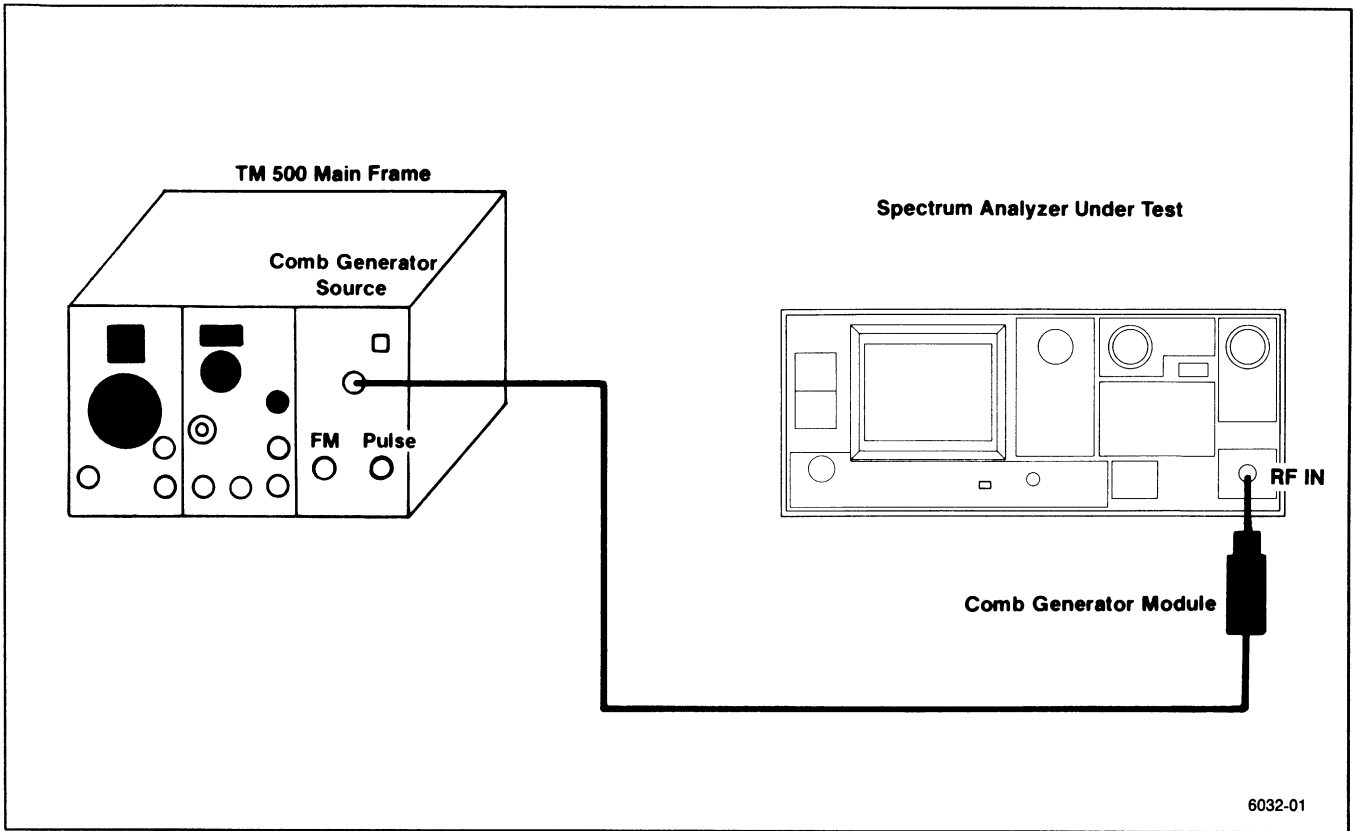

Figure 4-5. Test equipment setup for checking center frequency accuracy.
- (1) Use a Frequency Counter and a Prescaler to measure the fundamental output frequency of the Comb Generator (Comb Generator source output excluding the Comb Generator Module).
- (2) Make a note of the measured frequency, which is approximately 500 MHz. This is the fundamental frequency referred to in Table 4-2, and will be used to determine each center frequency checked.
- (3) Connect the test equipment as shown in Figure 4-5.
- (4) Set the Spectrum Analyzer controls as follows: